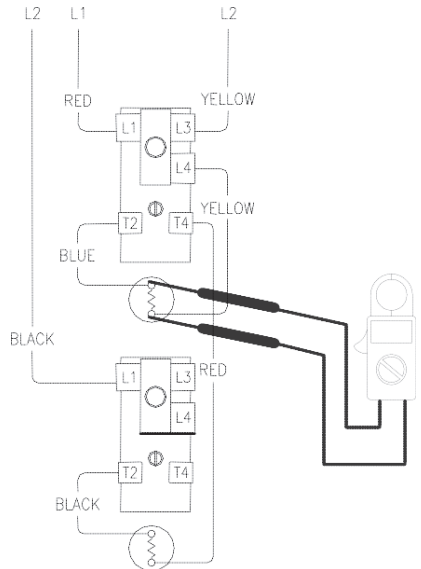

Figure 25
5. Check across element terminals (see Figure 25).